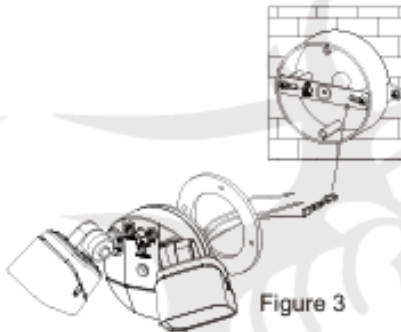

Figure 3
3. Affix the pad to the bottom of the light, then suspend the light from the bracket using the hanging rope (Figure 3).